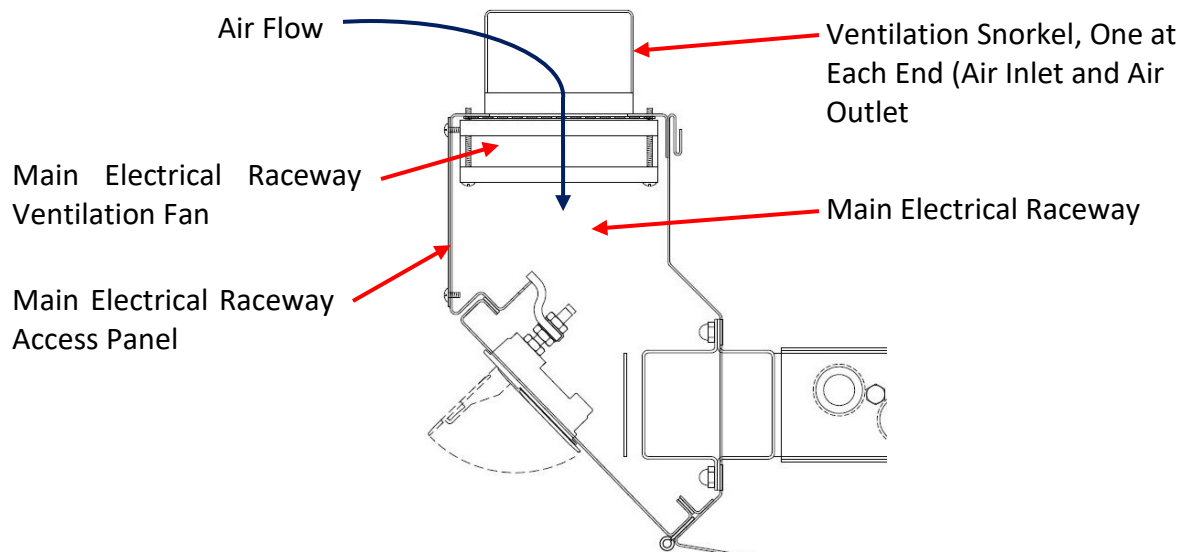

Figure 6-30-1
The Main Electrical Raceway Ventilation Fan is located at the right end of each Ventilator section behind the Main Electrical Raceway Access Panel (Refer to Figure 6-30-1 and 6-31-1). The purpose of the Ventilation Fan is to pull air into the raceway to; 1) help cool the raceway, 2) provide air to the UV Module Ventilation Fans and 3) to slightly pressurize the raceway to prevent grease from migrating into the area. The fan pulls air through a Ventilation Snorkel located immediately above the fan and the air is discharged through an opening with a Ventilation Snorkel at the left end of the raceway. The Ventilation Snorkel helps prevent building insulation and other debris from obstruction airflow.
10. Push the **START FAN** button and check the Ventilation fan for proper air flow direction (Refer to Figure 6-30-1).